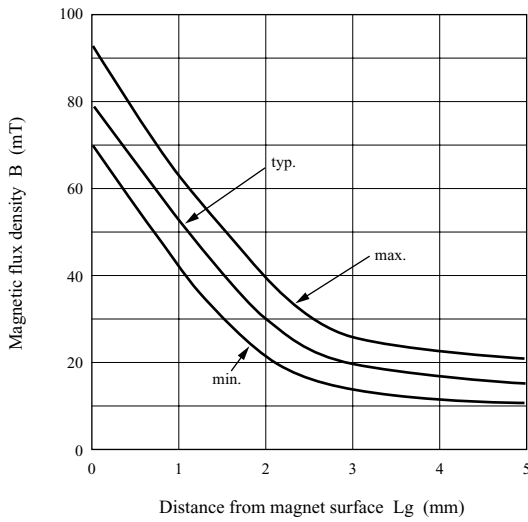

Figure 31
- 1) Remove gradually the sensor from surface of magnet, measure the data of flux density in each position. (figure 31)
- 2) Take the variation data of magnetizer condition. (figure 31)